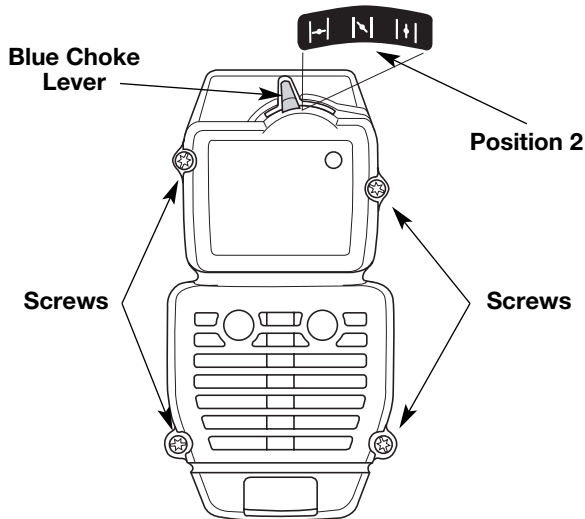

Fig. 32
1. Place the choke lever in Position 2 (Fig. 32).
2. Remove the four (4) screws securing the air filter/muffler cover (Fig. 32). Use a T-20 Torx bit screwdriver.
2. Insert the four (4) screws into the holes in the air filter/muffler cover (Fig. 32) and tighten. **Do not over tighten.**